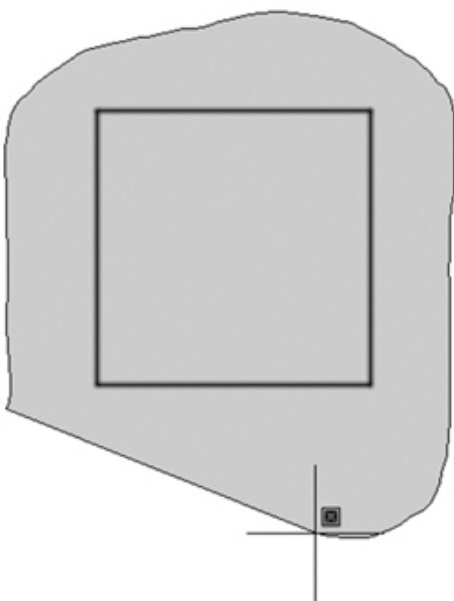

Figure 7-11
In addition to the implied **Window** and **Crossing** options, it is also possible to select objects using an implied **Lasso** option. This option allows you to select the objects you want to by holding the mouse button down after clicking in an empty space in the drawing and dragging a lasso around the objects as shown in Figure 7-11.
- 14** Drag the mouse up and to the right to create a lasso similar to the lasso selection shown in Figure 7-11.